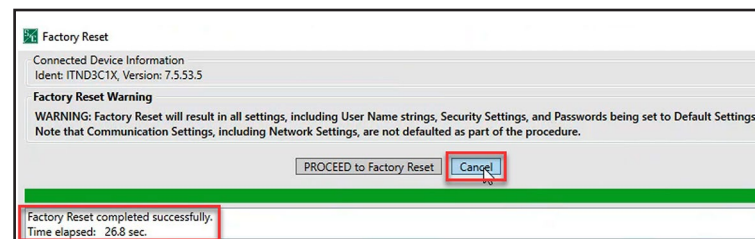

Figure 58. The Factory Reset completed successfully message.
STEP 6. When the **Factory Reset** procedure is completed, click on the **Cancel** button to complete the procedure. See Figure 58.